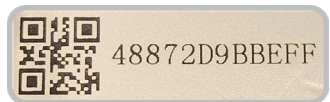

Fig. 2 - QR Code on the battery case
4. Once the camera is active, hold the marked area on the screen over the QR code on top of the battery (refer Fig. 2) to allow it to be scanned.